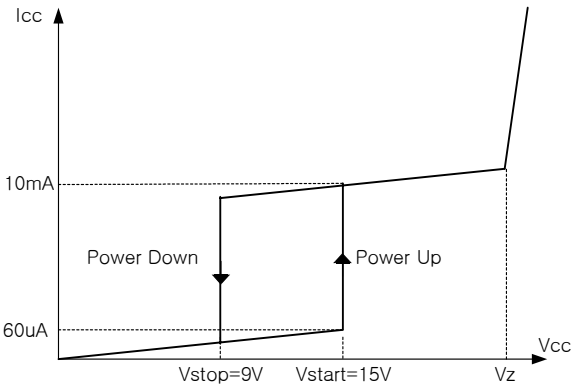

Figure 1. Relation between supply current and voltage
**1. Startup :** To guarantee stable operation of the control IC, Vcc has under voltage lockout (UVLO) with 6V hysteresis. Figure 1 shows the relation between the supply current (Icc) and the supply voltage (Vcc). Before Vcc reaches 15V, the start-up current is 60µA, which is usually provided by the DC link through start-up resistor. When Vcc reaches 15V, the control IC begins operation and the operating current increases to 10mA as shown. Once the control IC starts operation, it continues its normal operation unless Vcc goes below the stop voltage of 9V.